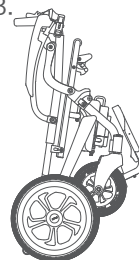
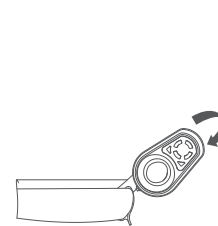

Figure 5.1
Figure 5.2
- Take out the electric wheelchair from the carton, as shown in Figure 5.1; Place the controller in the direction shown in the figure and lock the wrench in the direction shown in the figure, as shown in Figures 5.2 and 5.3.